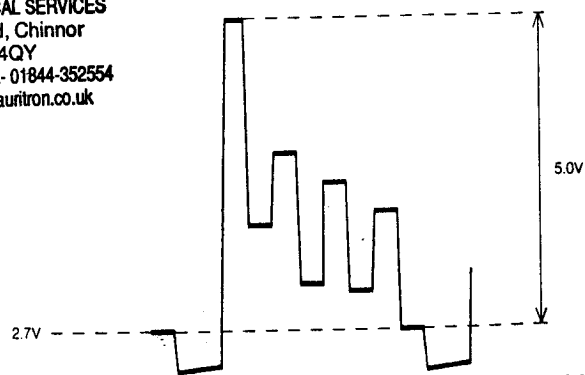

Fig. 2
- c. Connect an oscilloscope (1V/cm-10 $\mu$ sec/cm) to pin 16 of IC7350. Set the brightness control so that the level of the black bar in the video signal is lying at 2.7V (see Fig. 2). Set the contrast control for a video signal amplitude of 2.4V (see Fig. 2).